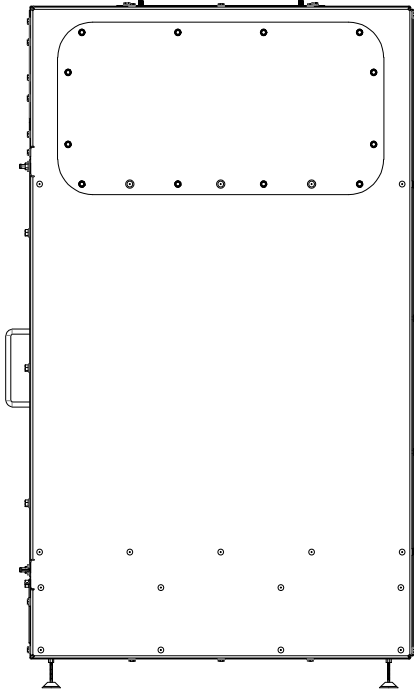

Figure 4.2: Vertically floor-mounted configuration.
The modules can be suspended either horizontally or vertically mounted to struts. For vertical floor-mounted (Figure 4.2), the module is supported by factory-included threaded feet. For vertical suspended (Figure 4.3), the module must be supported from both sides, using all eight (8) mounting bolts. For horizontal suspended (Figure 4.4), the module can be supported from the top, bottom, or both. (4) Brackets are included for hanging the unit, which can be attached at the 8 threaded hole locations.